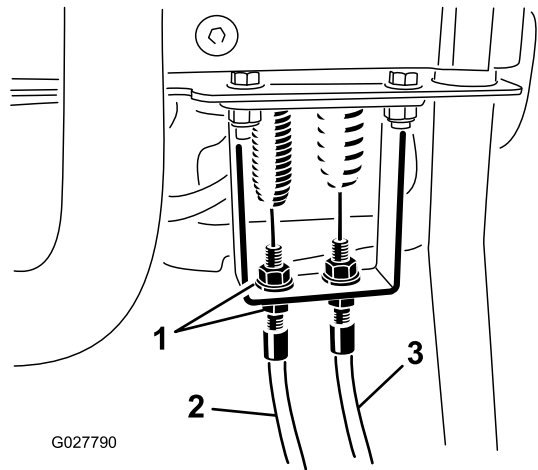

Figure 51
3. At the control handle bulkhead, loosen the reel-control cable until there is slack in the cable (Figure 51).